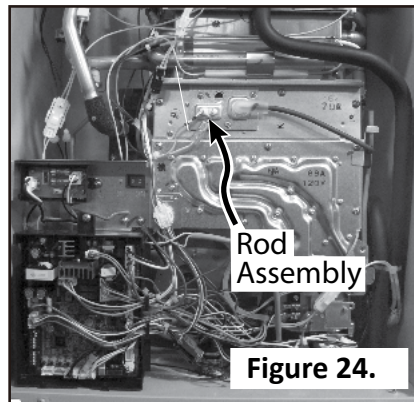

Figure 24.
3. Remove the rod assembly as described below. (See Figure 24.)